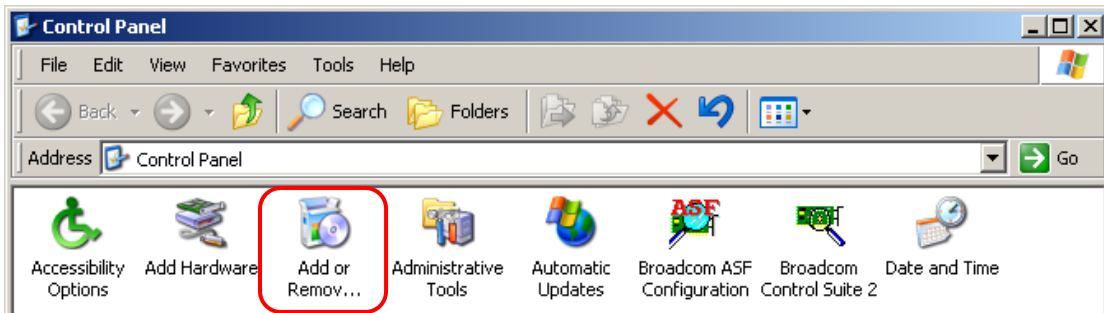

Figure II-22. Add or Remove Programs Icon
- 2) Double-click the **Add or Remove Programs** icon to start this application (Figure II-22).